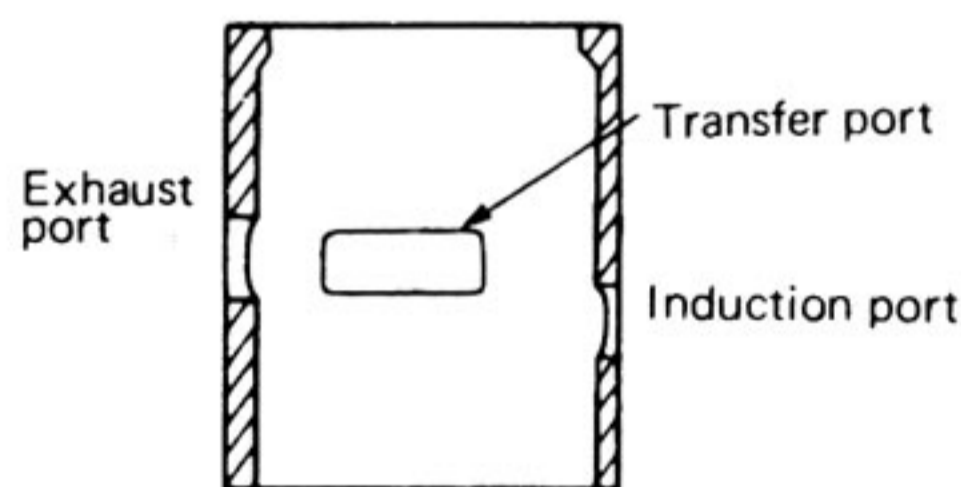

Fig. 4-3-3
(1) In two-stroke engines, the maximum wear usually results in the upper area of the cylinder wall due to the side thrust of the piston, with less wear in the adjacent areas of transfer and exhaust ports. Measure each cylinder's bore diameter at four different depths (a, b, c, d) with a micrometer or a cylinder gauge placed in the direction of A and B. If the difference between the maximum and minimum diameters measured exceeds 0.05mm (0.0019 in.), rebore and hone the cylinder. (Figs. 4-3-3 and 4)